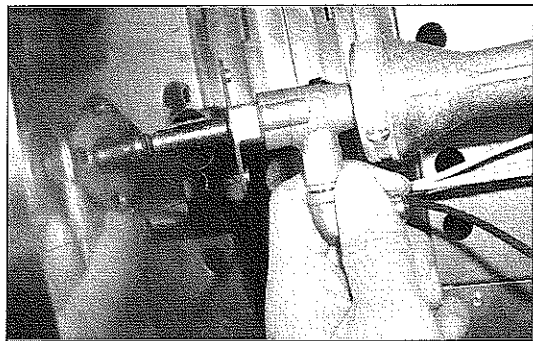

Fig 25
31. Carefully remove the valve assembly from the cast burner. You will need to angle the tube into the burner assembly. Then pull the valve stem out through the opening in the front of the side burner shelf assembly. (See Fig. 25)